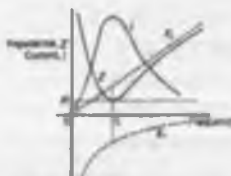

Figure 15.20
- Typical graphs of current I and impedance Z against frequency are shown in Fig. 15.20